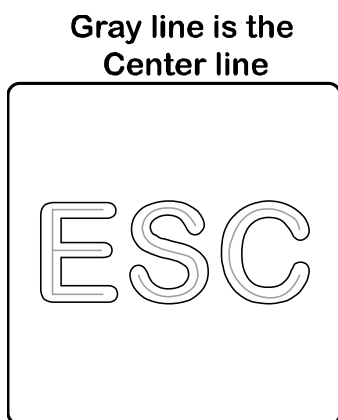

Figure 1
- If non-standard font words or numbers are requested, the file submitted needs to have a single 'center line' drawn through each letter/number. A font simply submitted as a vector file will cut as a block character and not a single line character (Figure 1). This also applies to graphics or other images.